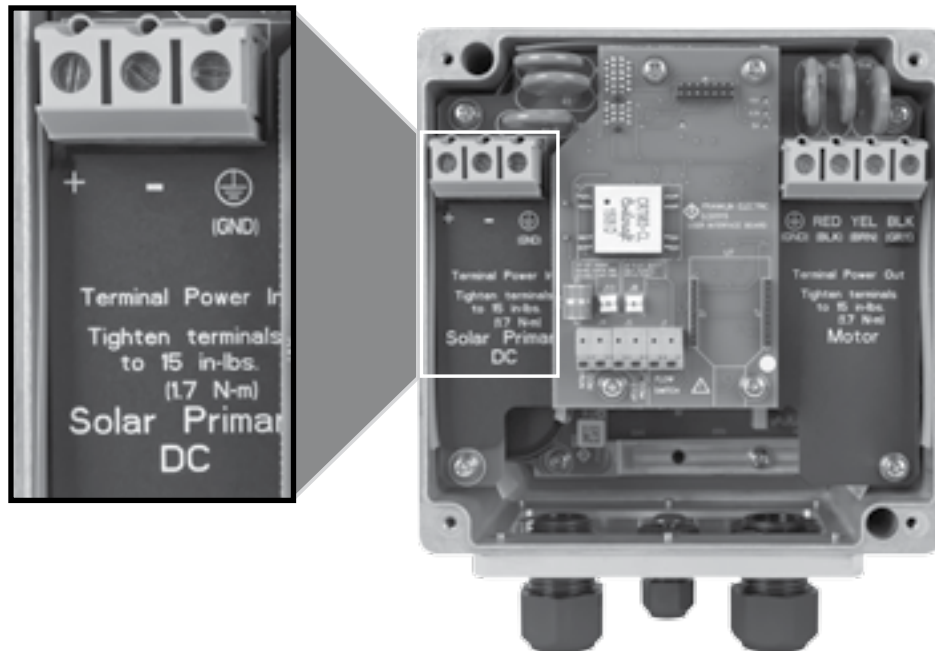

Figure 4: DC Wiring Connection
3. Connect the cables from the external DC disconnect to the terminal block labeled “Solar Primary DC” and marked +, - and GND. (Figure 4) (Torque specification: 15 in-lbs/ 1.7 N-m). (Use copper conductors only. Rated 75 °C minimum.)